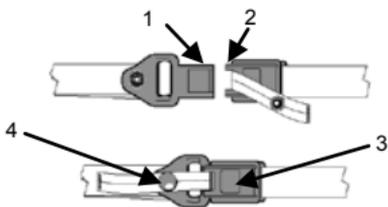

Figure 3. Quick-Release Buckle.
2. Attach the quick-release buckle by simply inserting the male portion (Figure 3, Item 1) into the female portion (Figure 3, Item 2), and push until the latch tab (Figure 3, Item 3) clicks. Do not try to push down on the latch tab (Figure 3, Item 3).
3. Secure snap fastener on lanyard (Figure 3, Item 4).